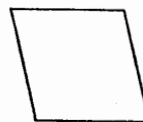

Fig. 41
37. A *Parallelogram* has its opposite sides parallel. The square and the rectangle are parallelograms, as are also two other figures called the *Rhombus* or *Diamond* in which all sides are equal and the *Rhomboid* which has only its opposite sides equal. Figs. 41 and 42.